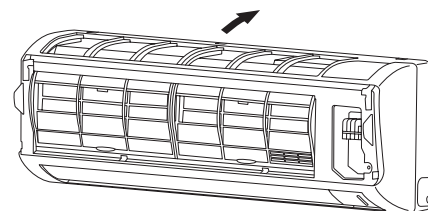

Fig. 2-167
- (1) When installing the grille, place the bottom of the grille into the frame first. (Fig. 2-167)